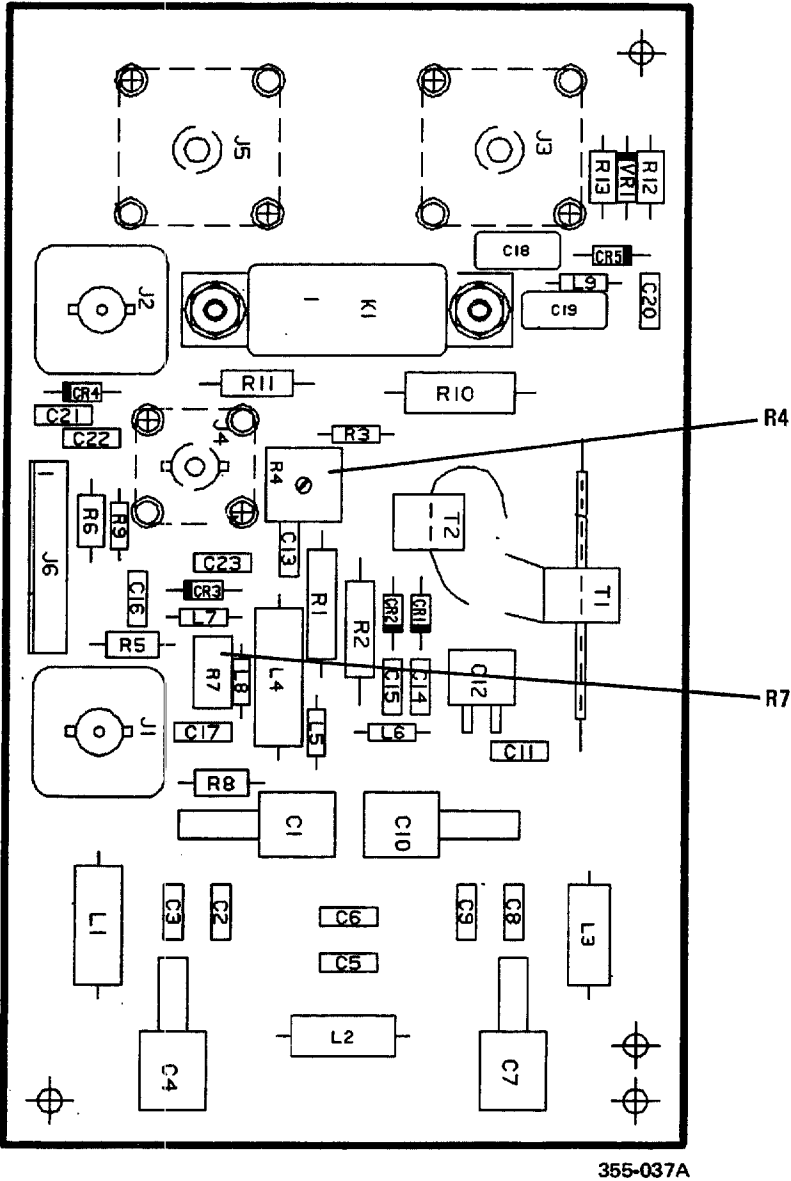

Figure 6-1. Output Filter PWB Assy
c. Output Filter PWB Assy. A3 (Fig. 6-1)**WARNING**